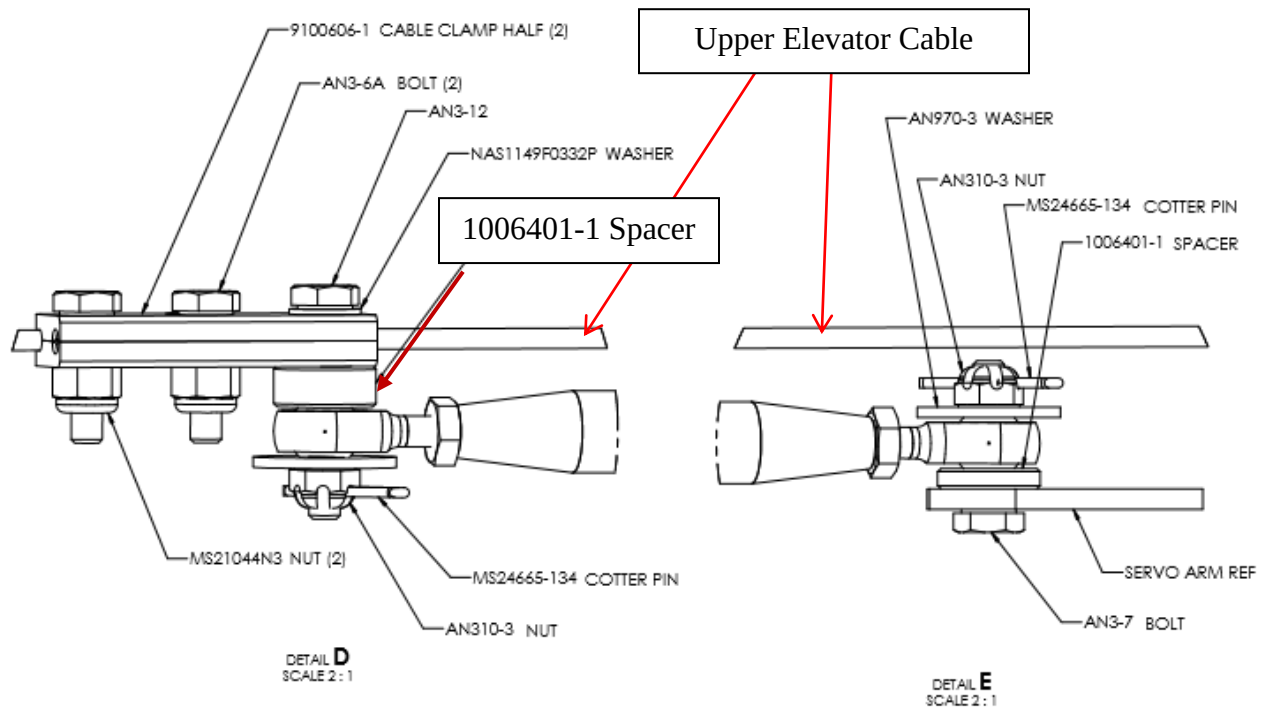

FIGURE 3-14 PITCH SERVO LINKAGE ATTACHMENT
50. Fasten the servo arm to the servo hub using the four (4) M3 (metric) screws supplied. The screws must be coated with Blue Medium strength Loctite before installation.
51. Assemble the pitch push pull tube linkage to the upper elevator cable as depicted in Detail D, Detail E in Figure 3-14.
53. Attach the push pull tube to the servo arm and upper elevator cable clamp as depicted in Figure 3-14. Ensure proper preload on the castellated nut before inserting the cotter pin.
54. Ensure that the servo arm is oriented with the upper elevator control cable as depicted in Figure 3-14.
57. The servo arm should be positioned as depicted in Figure 3-14 when the elevator pitch controls are in the neutral position.